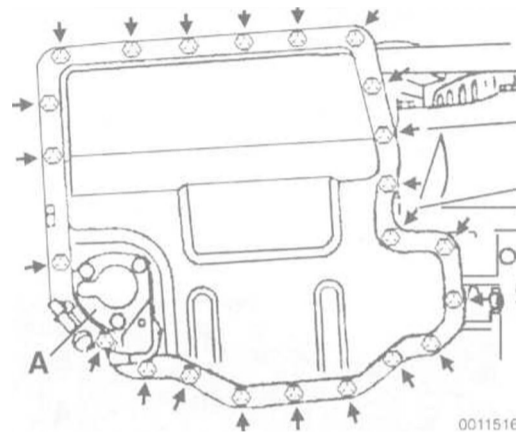

Fig. 8. Oil pan lower section mounting bolts (arrows) on M60 engine. Oil level sensor shown at A
7. Remove oil pan lower section. See Fig. 8.